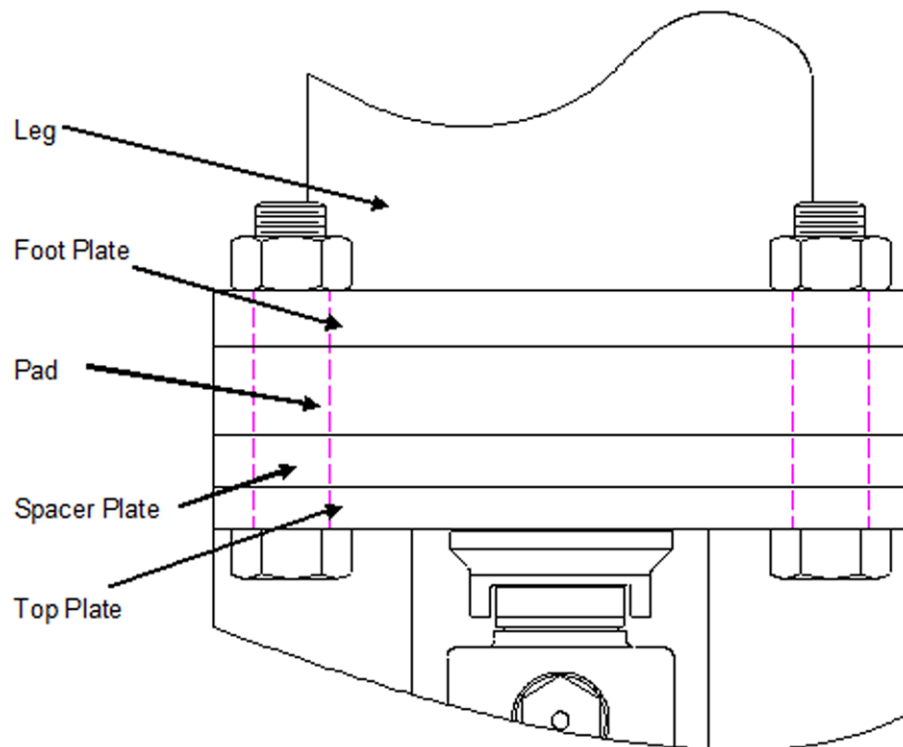

Figure 1-8: Mechanical Pad Installation
- b. Install a pad between the SafeLock™ locking plate and the tank's foot plate (see Figure 1-8). Note: Do not install the pad between the SafeLock™ locking plate and the weigh module's top plate.